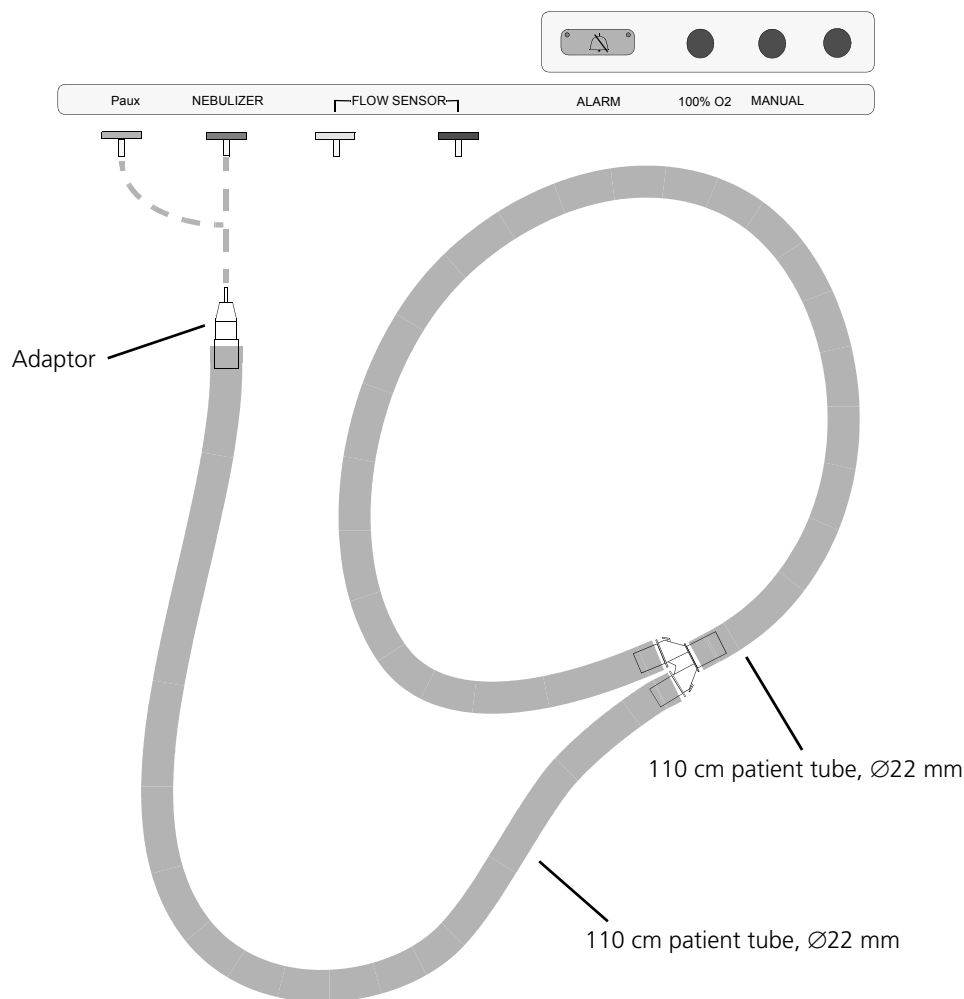

Figure 9-40. Setup for testing the nebulizer valve in the closed position
- b. Construct a vessel of 630 ml volume by using two lengths of 110 cm patient tubing, as shown in Figure 9-40.